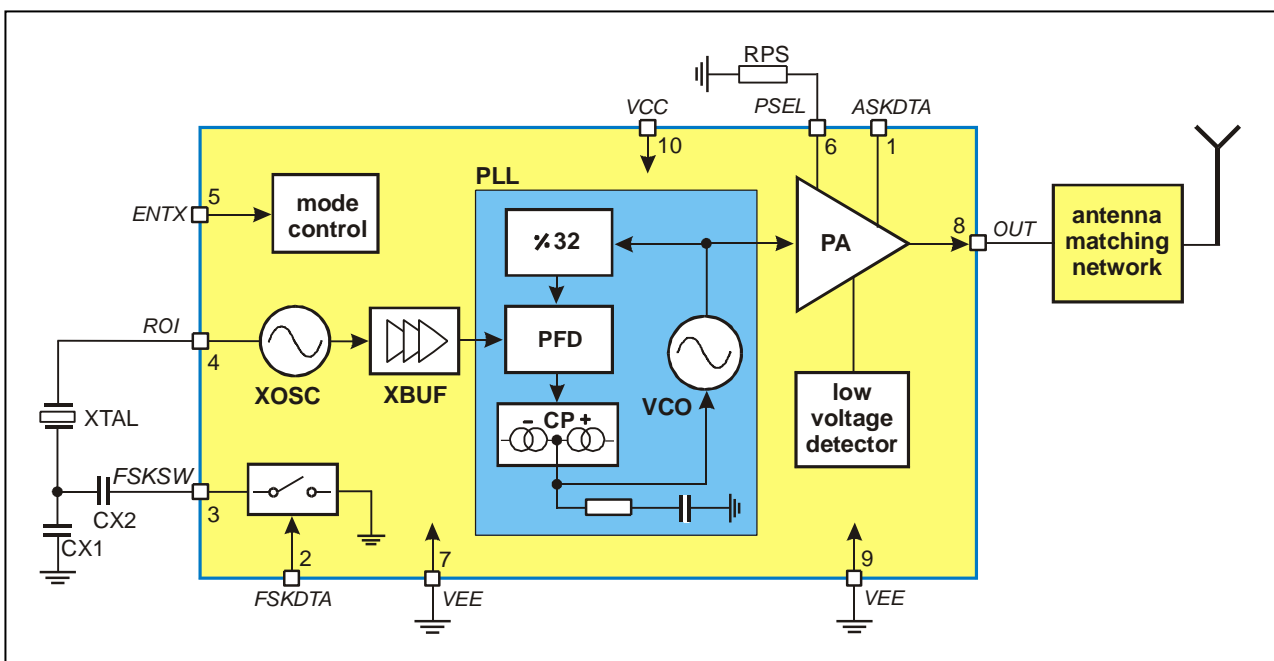

Fig. 1: Block diagram with external components
As depicted in Fig.1, the TH72035 transmitter consists of a fully integrated voltage-controlled oscillator (VCO), a divide-by-32 divider (div32), a phase-frequency detector (PFD) and a charge pump (CP). An internal loop filter determines the dynamic behavior of the PLL and suppresses reference spurious signals. A Colpitts crystal oscillator (XOSC) is used as the reference oscillator of a phase-locked loop (PLL) synthesizer. The VCO's output signal feeds the power amplifier (PA). The RF signal power P_{out} can be adjusted in four steps from $P_{out} = -11$ dBm to +9.5 dBm, either by changing the value of resistor RPS or by varying the voltage V_{PS} at pin PSEL. The open-collector output (OUT) can be used either to directly drive a loop antenna or to be matched to a 50ohm load. Bandgap biasing ensures stable operation of the IC at a power supply range of 1.95 V to 5.5 V.